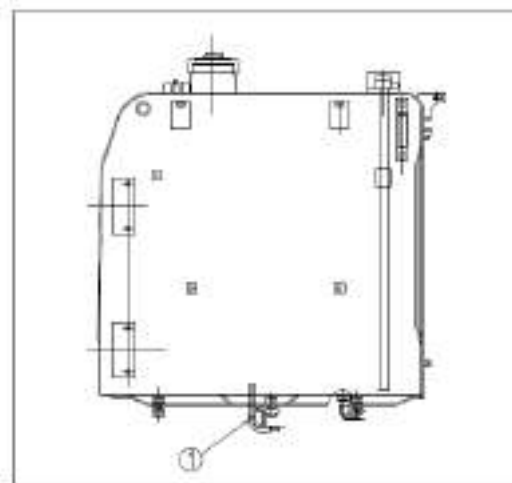

Figure 4-11 Fuel tank drain valve
a). The water and sediments in a fuel tank is directly discharged through the drain valve set in the bottom, so you should put a container under the drain valve ① to receive the discharged fuel.
b). Open the drain valve ① at the bottom of the fuel tank and discharge the sediments and water accumulated at the tank bottom with the fuel.
c). Close the drain valve ① when the discharged fuel is clean, as shown in Figure 4-11.